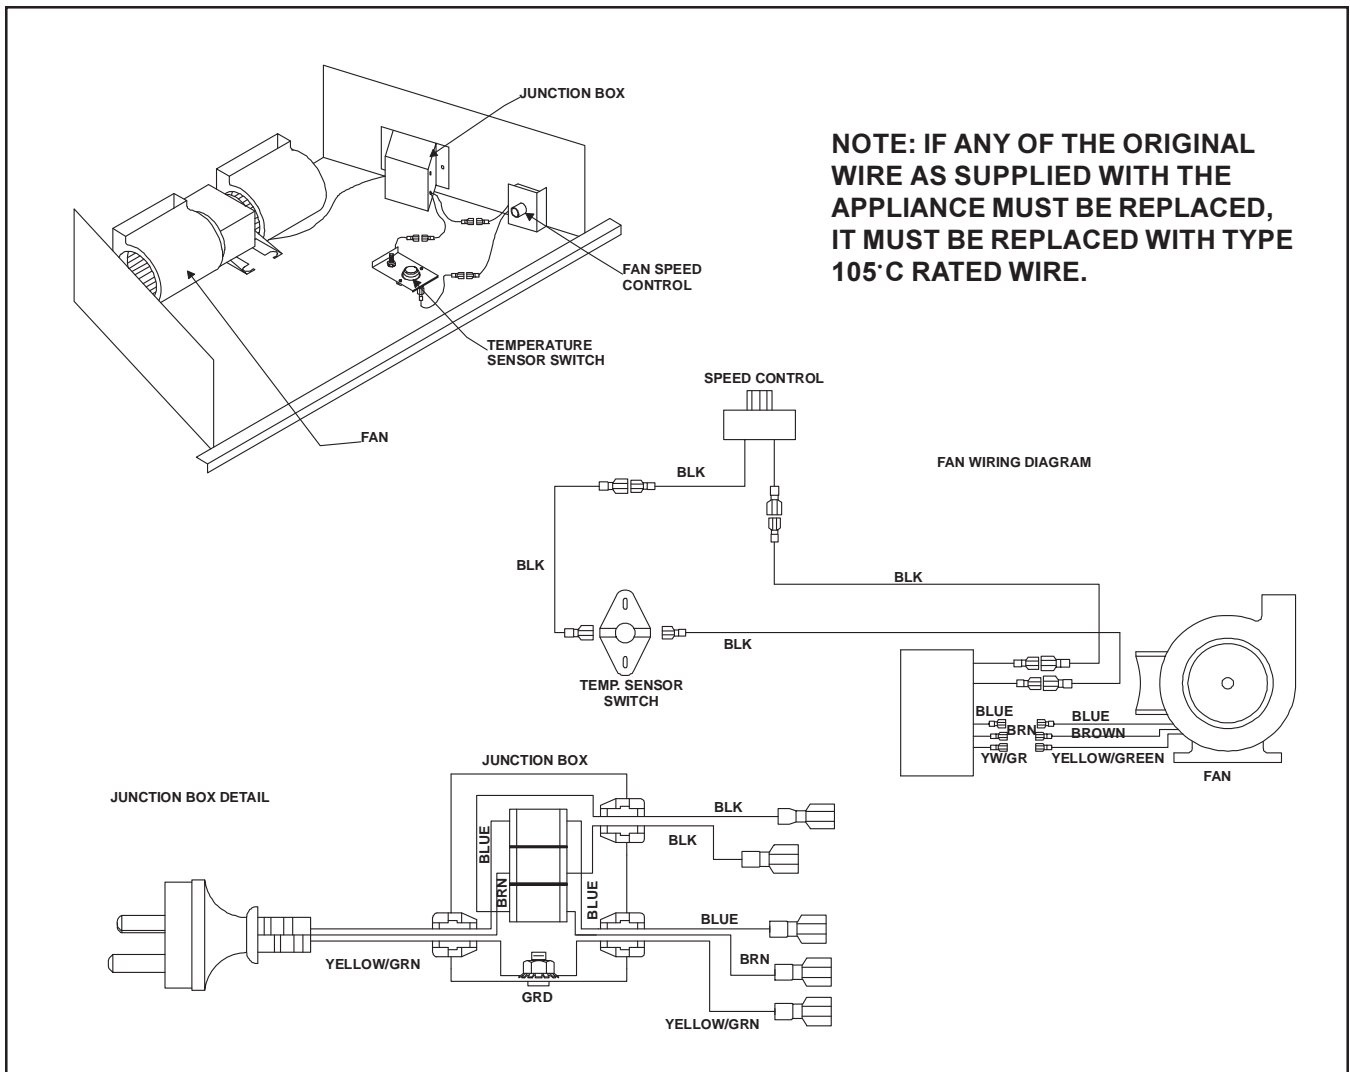
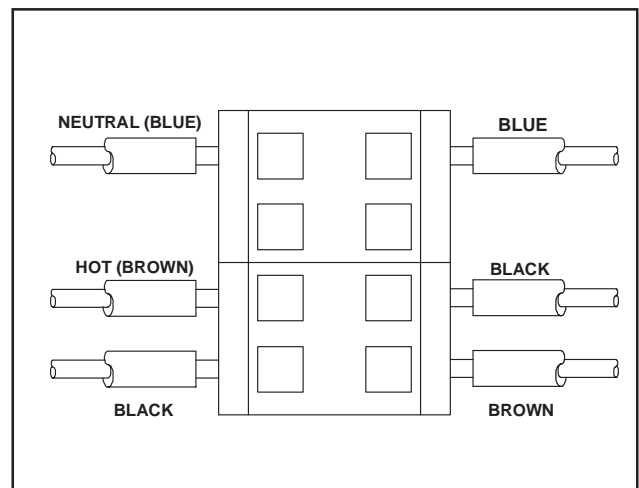

FIGURE 19
FIGURE 20
Use of the fan requires that the Junction Box (factory installed) be connected to 240 VAC service before permanently enclosing the heater. The access hole for connecting the service wires is found on the lower front exterior side of the unit. Figure 19 shows the fan, switches, and fan wiring diagram.
3. Using the wire connector provided inside the junction box, attach the neutral service wire to the blue wire, the hot service wire to the black wire, and the service ground wire to the ground screw stud of the junction box. See Figure 20 for wire connection detail and Figure 19 for a complete wiring diagram.